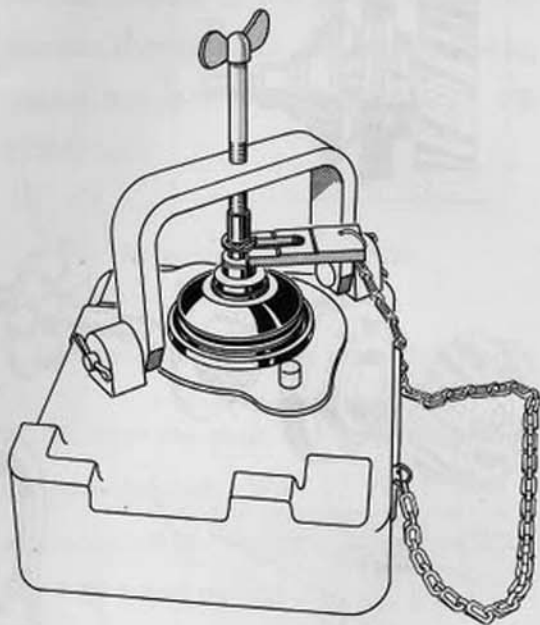

FIG. 6
- (a) The Governor Setting Gauge No. ELO-7691, Fig. 6, was designed to check all the governor adjustments.
- (1) Clamp the shaft and driver assembly in the Governor Setting Gauge as shown in Fig. 6.
- (2) To measure accurately, the lower race must be held against driver tightly.
- (3) Insert the "Go and No Go" gauge between the shims as illustrated in Fig. 6. If only the thin end of gauge can be inserted, the clearance is satisfactory. If the thick end of gauge can also be inserted, the clearance is excessive and ball stop shims (9N-18241) should be added until thin end of gauge, only, can be inserted. The shims are .010" thick.